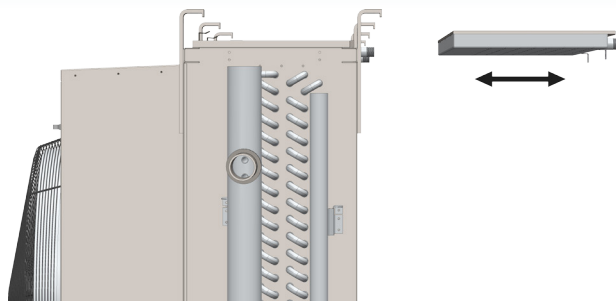

Figure 15
*Removable, cleanable water distribution pans:* Fouling and plugging of spray nozzles is eliminated by the use of removable, cleanable water distribution pans. The distribution pans are designed to be easily removable for inspection and cleaning while the air cooler remains in place and undisturbed. See Figure 15.